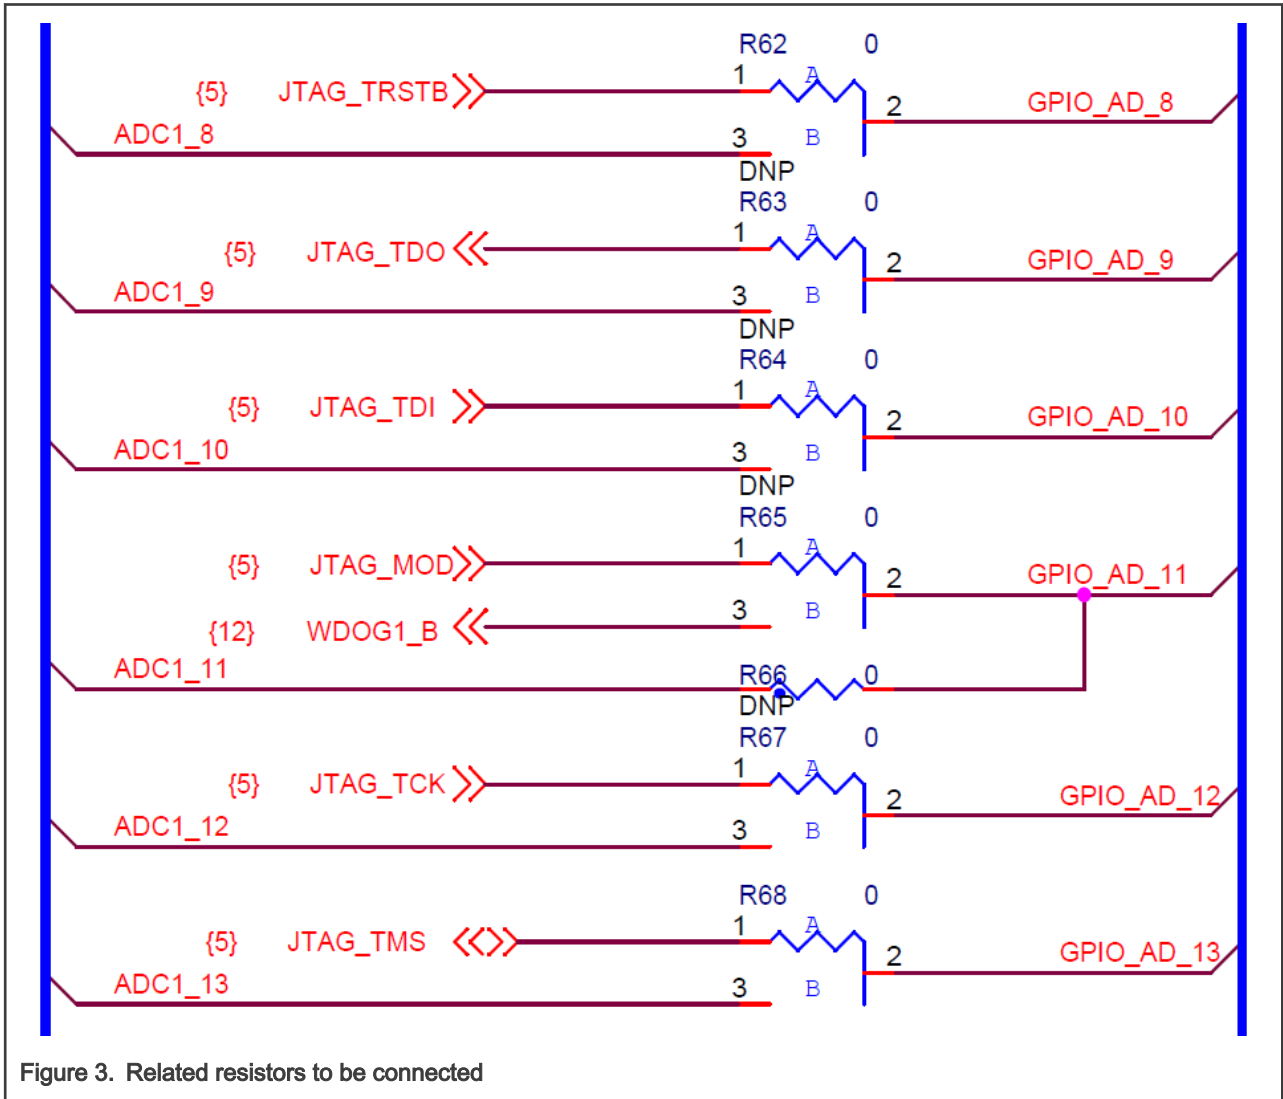

Figure 3. Related resistors to be connected
- Write `efuse` to i.MX RT1010, change the debugging mode to JTAG, and solder the related resistors: R62, R63, R64, R65, R67, as shown in Figure 3 (enabling trace function is not related with debug port, so choosing either JTAG or SWD is fine).